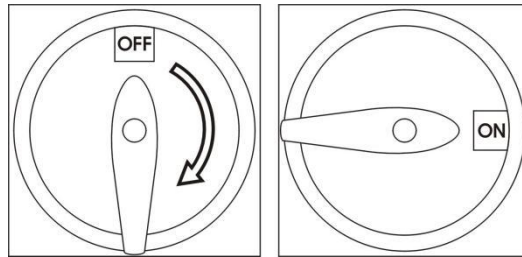
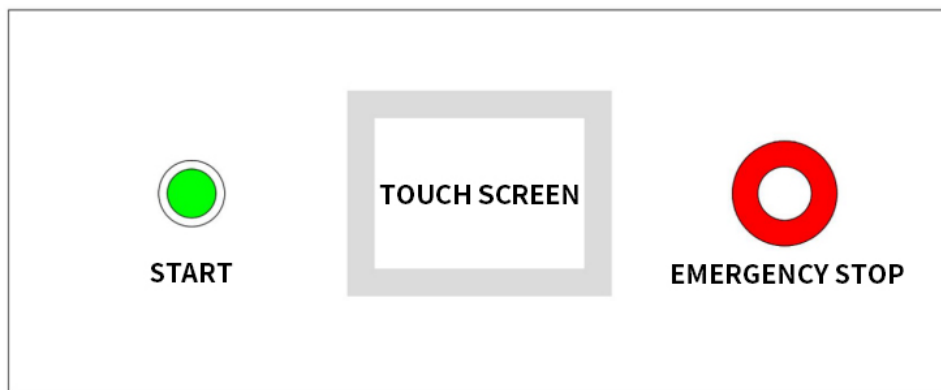

Figure 2 Power Switch
Figure 3 Control Panel
6.1 Connect the power supply and turn on the main power switch of this device - Rotate the switch from OFF to ON (see Figure 2), the human-machine interface touch screen on the front control panel of the device will light up (see Figure 3), and the human-machine interface will display the operation screen.
6.4 Equipment Operation Control Panel Description (Figure 3)